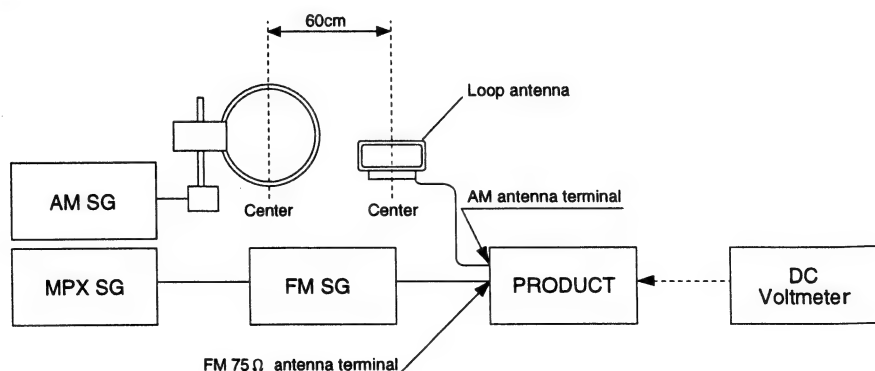

Fig. 1-1 AM and FM Adjustment Wiring Diagram
- Connect the wiring as shown in Fig. 1-1.